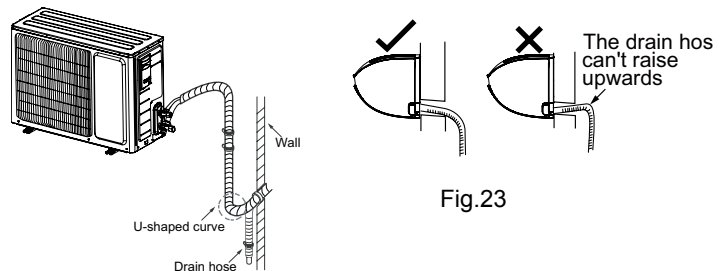

Fig.22
- (1) The pipes should be placed along the wall, bent reasonably and hidden possibly. Min. semidiameter of bending the pipe is 10cm.
- (2) If the outdoor unit is higher than the wall hole, you must set a U-shaped curve in the pipe before pipe goes into the room, in order to prevent rain from getting into the room.(As show in Fig.22)